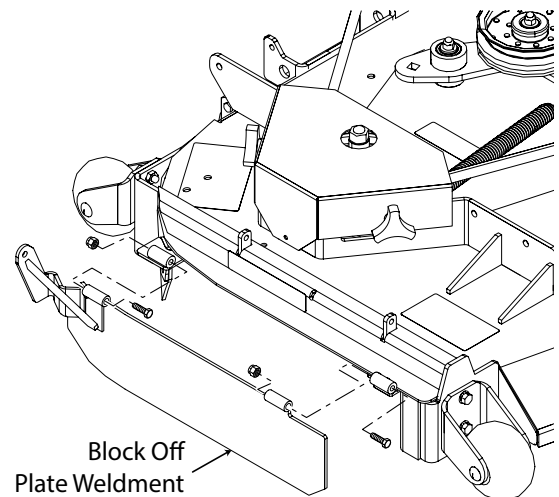

Figure 3-19. Block Off Plate Weldment Installation
18. Install the E-OCDC pivot assembly to the cutter deck. Secure using two (2) 5/16-18 x 1" bolts and two 5/16-18 flanged elastic stop nuts. See Figure 3-19.